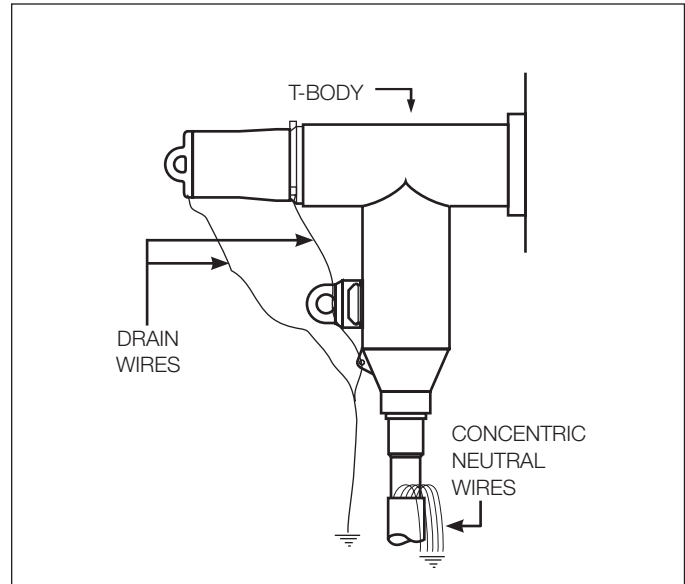

Figure 18.
- Connect concentric neutral wires to the common ground point leaving adequate slack for hotstick operation. (Refer to Figure 18.)